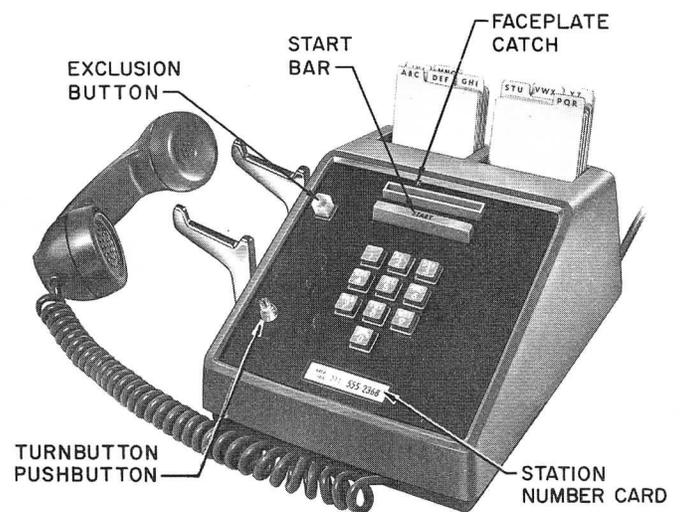

Fig. 2 - 1660-Type Telephone Set
(1) Place KS-16750, L1 releaser at edge of faceplate catch (Fig. 2).
(2) Push catch toward rear of set until releaser hits notched portion of faceplate.
(3) Turn point of releaser under faceplate and raise.
(4) Slide number card behind number card retainer.
(5) Replace faceplate using releaser to hold catch until faceplate is in position.